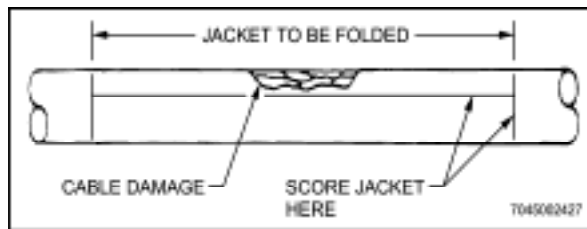

Figure 5-8 Scored Jacket on Multi-Conductor Cable
- b. Using a sharp blade or knife, score cable jacket around the cable and along the length of the damaged area (Figure 5-8).